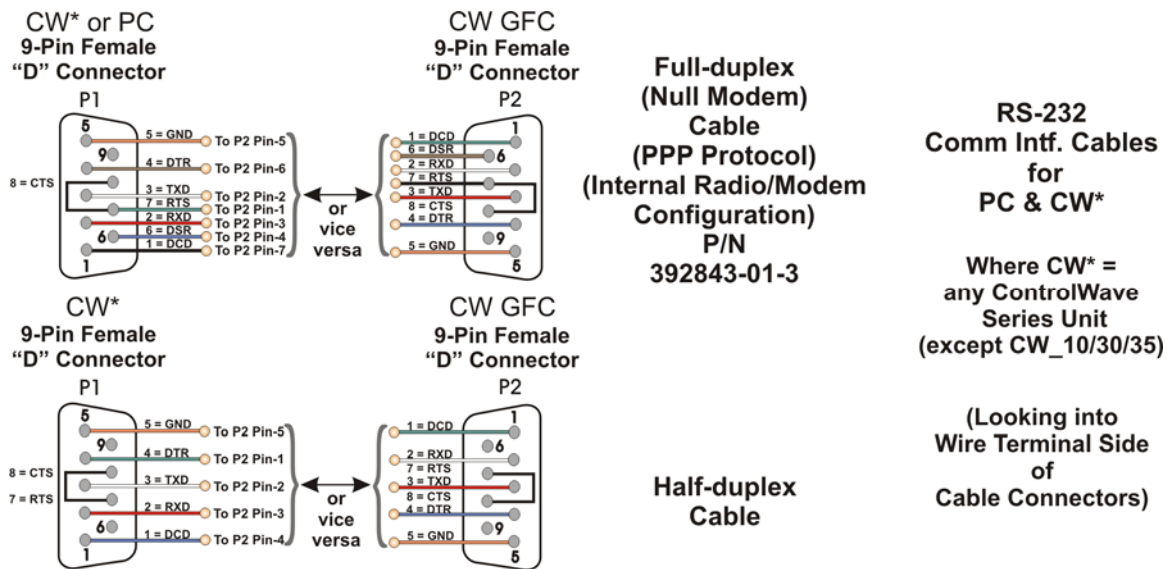
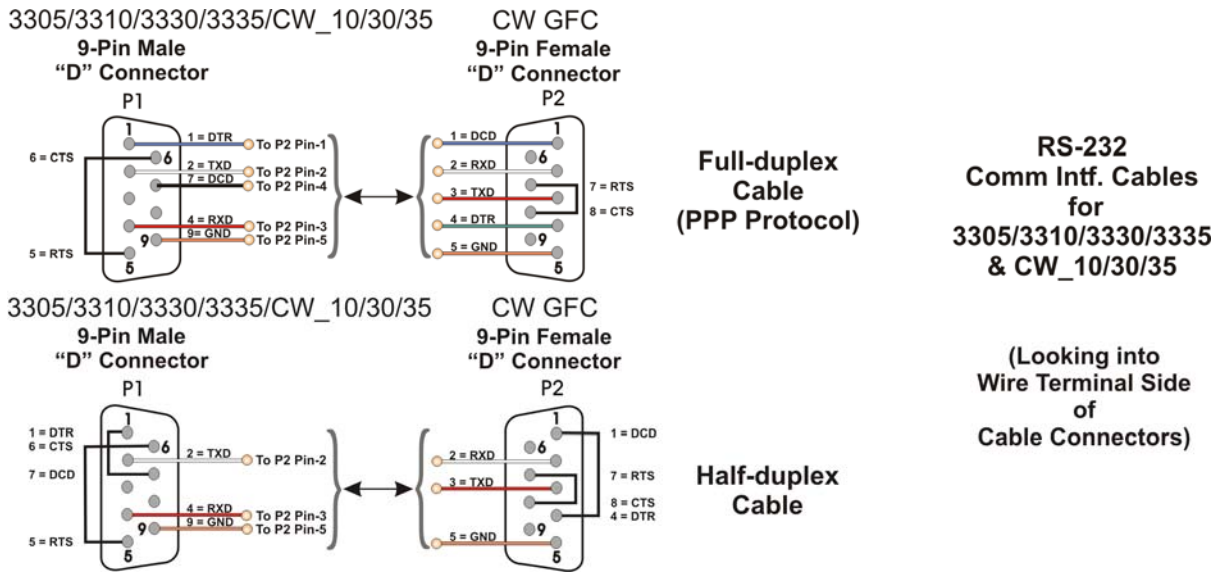
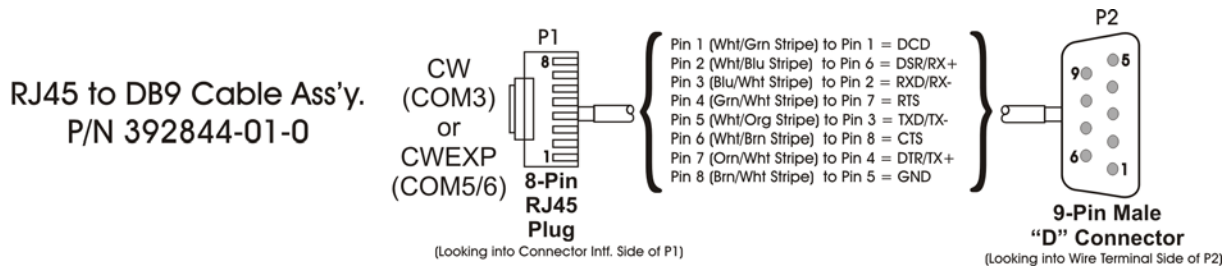

Figure 2-15. Full-duplex and Half-duplex Cable
Figure 2-16. Full-duplex and Half-duplex Cable
Figure 2-18. Full-duplex and Half-duplex Cable
**RS-232 COM1/COM2 Port Cables** For the ControlWave GFC, half-duplex communications use Modbus or BSAP protocol, while full-duplex communications use point-to-point protocol (PPP). RS-232 ports use a “null modem” cable (see *Figure 2-15*) to connect with other devices (such as a PC, a printer, another ControlWave [except the CW\_10/30/35]) when the ControlWave GFC uses the full-duplex PPP protocol.
Use the “null modem” cable for full-duplex (PPP protocol) communications when connecting a ControlWave GFC to a PC. (See top part of *Figure 2-15*.)
Use the half-duplex cable (shown in the bottom part of *Figure 2-15*) when connecting the ControlWave GFC to another ControlWave series unit (again, with the exception of the CW\_10/30/35).
When communicating with a Network 3000 series RTU 3305, RTU 3310, DPC 3330, or DPC 3335 or CW\_10/30/35, you must use one of the cables shown in *Figure 2-16*.
When interfacing to the COM3 port of a ControlWave, or the COM5 or COM6 port a ControlWaveEXP unit, use the cable presented in Figure 2-18 along with one of the cables shown in Figure 2-15 or Figure 2-16.